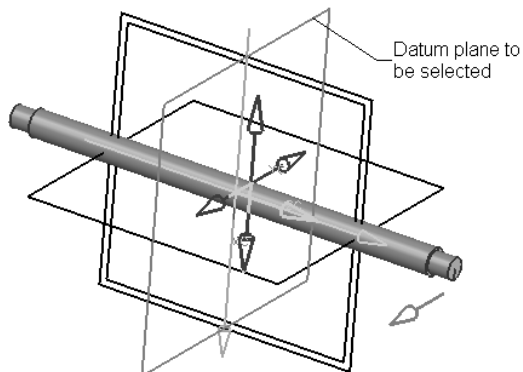
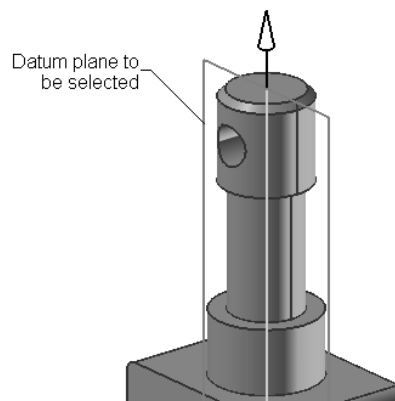

**Figure 8-55** Cylindrical face from the Handle to be selected
**Figure 8-56** Cylindrical face from the Screw to be selected
6. Select the cylindrical face as the first object from the Handle, as shown in Figure 8-55. Next, select the cylindrical face from the Screw as the second object, as shown in Figure 8-56.